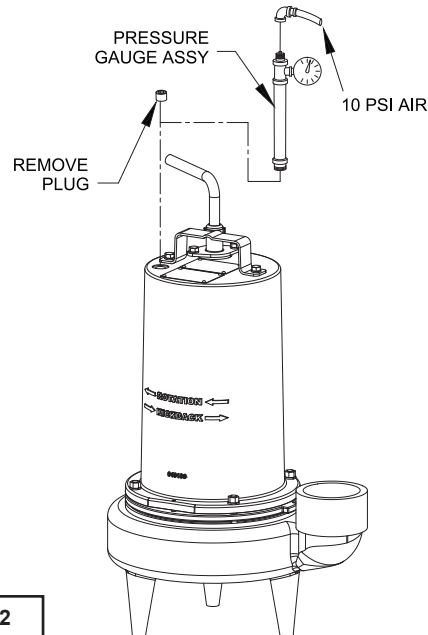

FIGURE 2
Motor Housing - Set unit upright and refill with new cooling oil as per Table 1 (see parts list for amount). Fill to just above motor as an air space must remain in the top of the motor housing (2) to compensate for oil expansion (see Figures 2, 11, or 13). Apply thread locking compound to each pipe plug (5) then assemble to motor housing (2).
- Apply pipe sealant to pressure gauge assembly and tighten into pipe plug hole (see Figure 2). Pressurize motor housing to 10 P.S.I. Use a soap solution around the sealed areas and inspect joints for "air bubbles". If, after five minutes, the pressure is still holding constant, and no "bubbles" are observed, slowly bleed the pressure and remove the gauge assembly. Replace the pipe plug using a sealant. If the pressure does not hold, then the leak must be located and repaired.
- The pressure test may not be done with the oil at its normal level. Remove pipe plug (5) from motor housing (2). Apply pipe sealant to pressure gauge assembly and tighten into hole (see Figure 2). Pressurize motor housing to 10 P.S.I. Use soap solution around the sealed areas above the oil level and inspect joints for "air bubbles". For sealed areas below the oil level, leaks will seep oil.